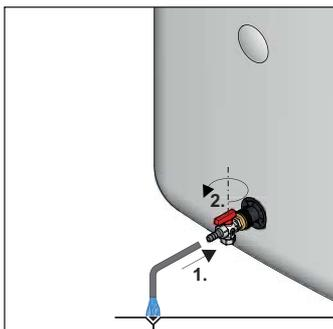
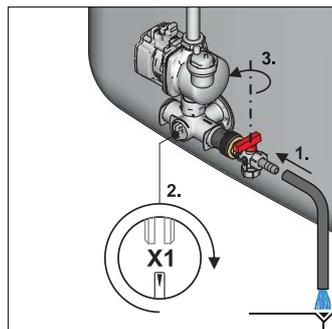

Fig. 5-1 Draining process **without** $p=0$ solar system
Fig. 5-2 Draining process **with** $p=0$ solar system
- Connect the drain hose to the **KFE filling connection** (fig. 5-1 / fig. 5-2) and to a waste water drainage point which is at least at ground level.
- Only with $p=0$ solar system: Adjust the valve insert on the connecting angle so that the path to the drain hose is opened (fig. 5-2).
- Open the **KFE filling connection** and drain the water out of the storage tank fig. 5-1 / fig. 5-2).